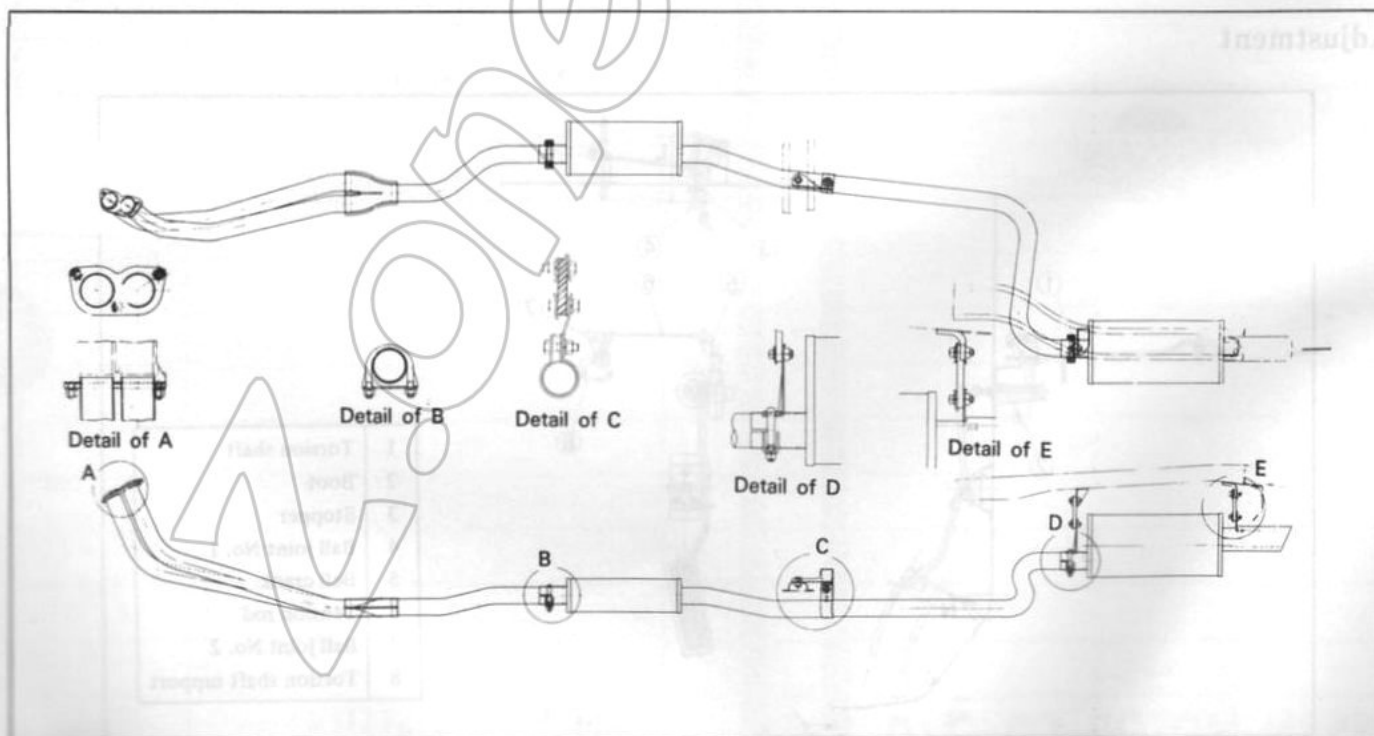

Fig. FE-3 Exhaust system
The exhaust system consists of three units providing front tube, pre-muffler and center tube, and main muffler and tail pipe. As seen in the Figure FE-3, the exhaust system is mounted at the points "C", "D" and "E" and clamped at the points "B" and "D" with U-bolts.
2. Remove the exhaust hanger strap (the point "E" shown in the Figure FE-3.).
3. Remove the exhaust hanger strap (the point "D" shown in the Figure FE-3.).
4. Remove the bolt (the point "C" shown in the Figure FE-3.) and dismount the exhaust system.
5. Remove the U-bolts (the points "B" and "D" shown in the Figure FE-3.), and separate the exhaust system into three sections.